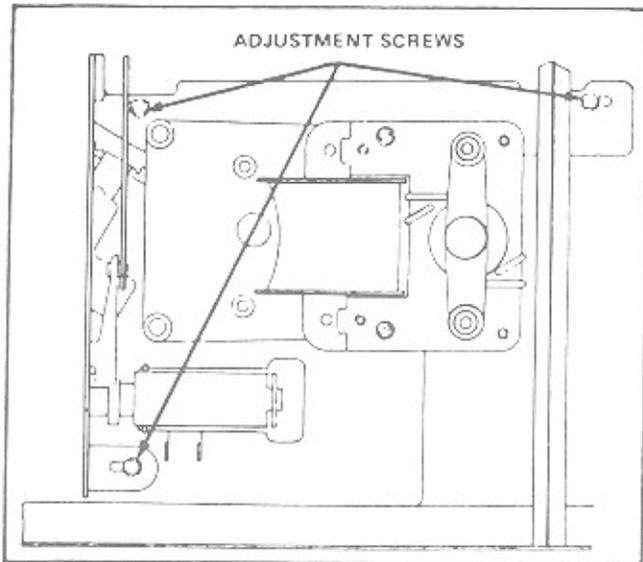

Figure 3-16. Magazine Adjustment
5. With sprag wheel locked, move the magazine until the record is centered between belt guides (The adjustment screws will be approximately centered in the slots, see figure 3-16).